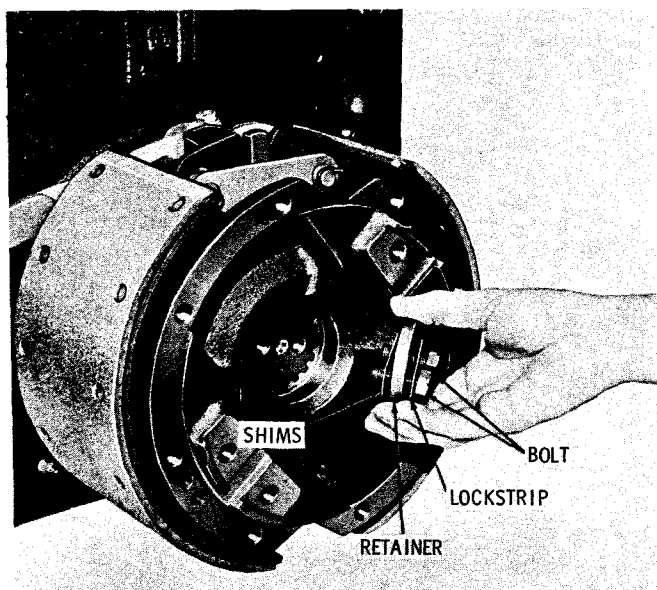

Fig. 5-85. Removing output flange retainer components
(6) Remove two bolts (fig. 5-85), lockstrip, retainer washer and shims.